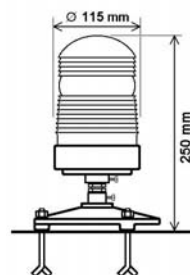

FIG 2
- Ground level mounting on Short Frangible Tube (Fig 2).